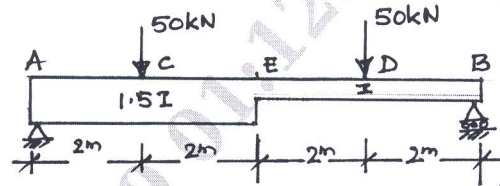

Fig.Q.3(b)
- b. For the simply supported beam loaded as shown in Fig.Q.3(b). Find the slope at A and B and deflection at 'E'. Take $EI = 4000 \text{ kN-m}^2$. Use moment area method. (10 Marks)